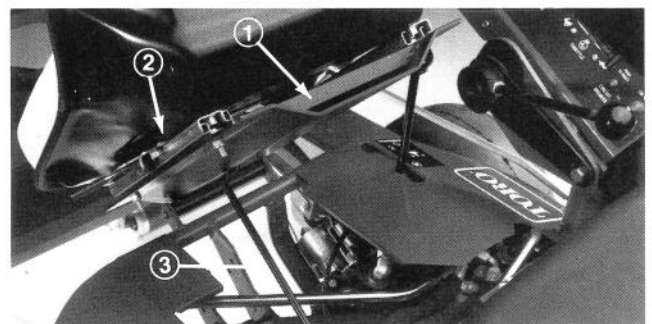

Figure 5
3. Secure seat and seat slides to seat support with 5/16-18 locknuts supplied in loose parts (Fig. 5).